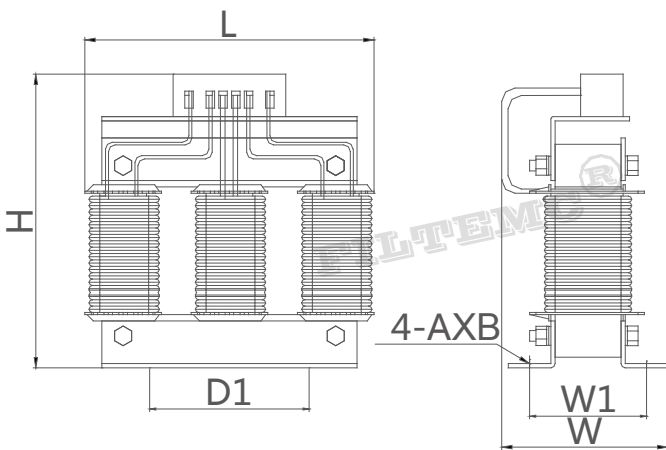

Fig.1
- If the terminal is stud, please use two spanners to fasten the screw nut when connecting to avoid stud rotating and thus causing changes to the internal circuit and consequently leading to filters arcing, short circuit, broken down or the filtering effect worsened. First use spanner1 to fix the screw nut near the metal case, then use spanner2 to tighten the screw nut in front(shown as Figure1), otherwise the terminals may be damaged. Apply the same for the connection of other phases.
(Figure1)